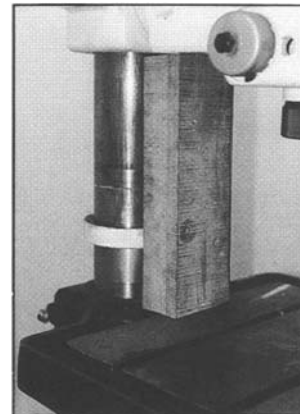

Figure 4
2. Lower the table until there is room to place a block of wood between the table and the head assembly (Figure 4).